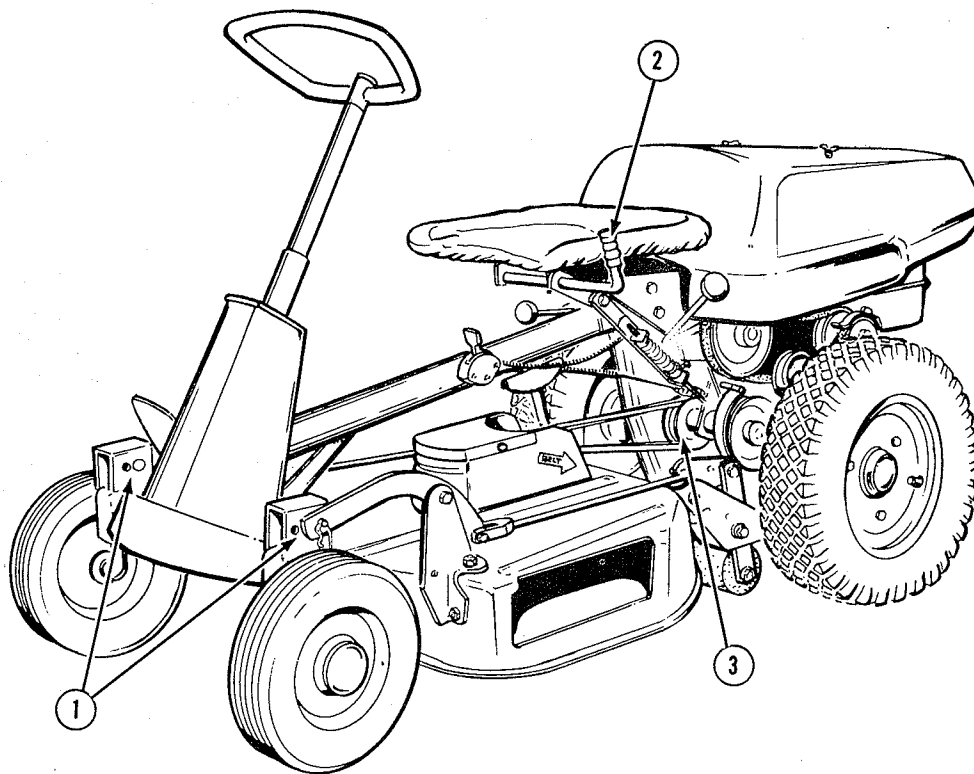

Fig. NR-1
5. Position the mower under the center of the Wonder-Boy and attach it to the front axle assembly with the two pins and spring clips provided (10, Fig. NR-2). Use the rear set of holes in the axle assembly (1, Fig. NR-1). After the drive belt has stretched through use, the mower may be moved to front holes.
6. Before attaching the cross drive belt, make sure the mower clutch lever (2, Fig. NR-1) is in the disengaged position. Place the belt on the mower pulley (8, Fig. NR-2), then twist it one quarter turn in the direction indicated by the arrow on the mower before placing it on the power take-off pulley (3, Fig. NR-1). The spring loaded power take-off shaft assembly should be pulled forward as far as possible to facilitate the attachment of the cross drive belt.